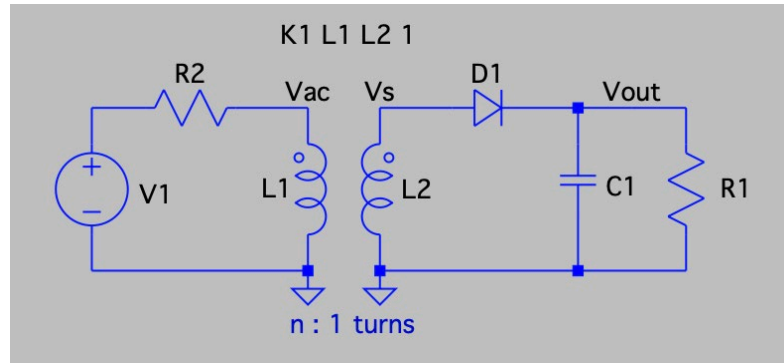

Figure 3. Half-Wave Rectifier with a RC Load
1. Modify the previous circuit from Part 1 to add a capacitor load in parallel with the resistor as shown in Figure 3. The diodes will be ideal. Set the value of C1 to be 250uF.